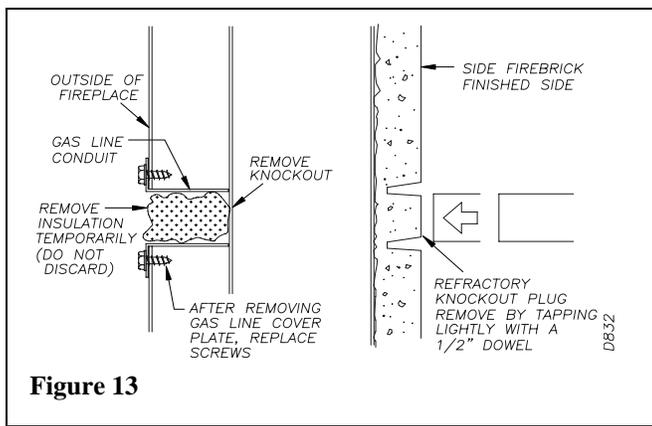

Figure 13
STEP 1: To install, remove the knockout indentation on the refractory (or firebrick) wall located approximately 2” above the refractory hearth floor. The knockout indentation must be firmly tapped with any solid object until it is released. Remove fragmented portion of refractory (see figure 13).